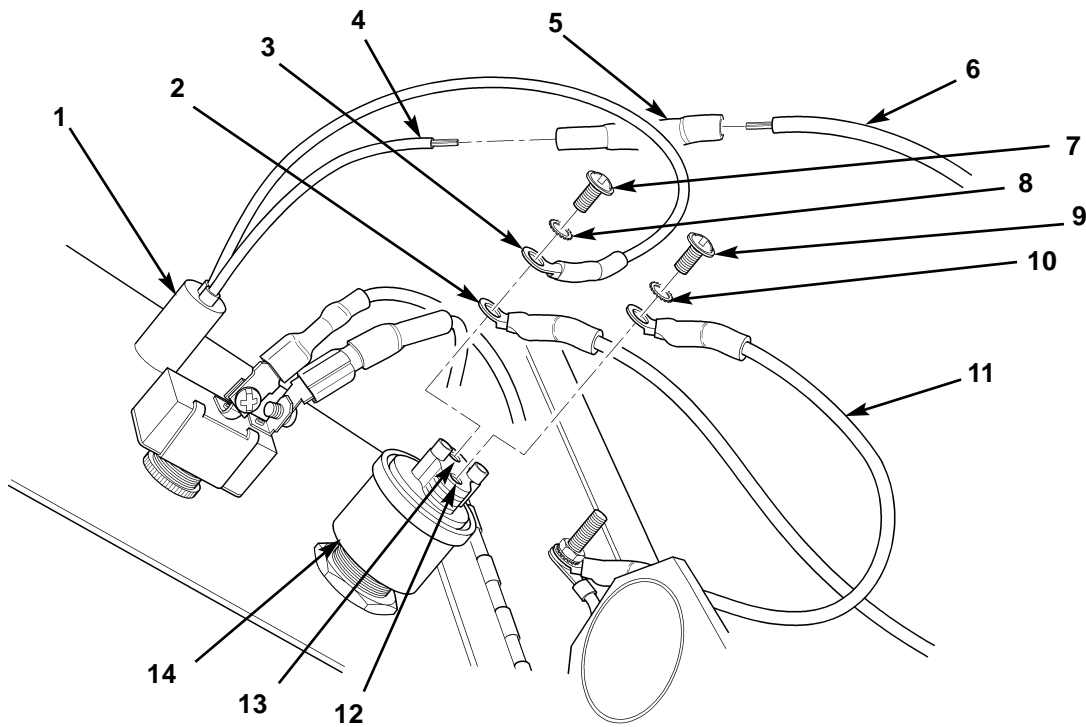

Figure 2. Disconnecting Wires.
2. Cut black wire (figure 2, item 4) from ABS warning light (figure 2, item 1) at wire connector (figure 2, item 5) and cut wire connector (figure 2, item 5) from blue wire (figure 2, item 6). Discard wire connector (figure 2, item 5).
3. Remove screw (figure 2, item 7), star washer (figure 2, item 8), black wire (figure 2, item 3), and blue wire (figure 2, item 2) from terminal (figure 2, item 13) on ABS test switch (figure 2, item 14).
4. Remove screw (figure 2, item 9), star washer (figure 2, item 10), and black ground wire (figure 2, item 11) from terminal (figure 2, item 12) on ABS test switch (figure 2, item 14).